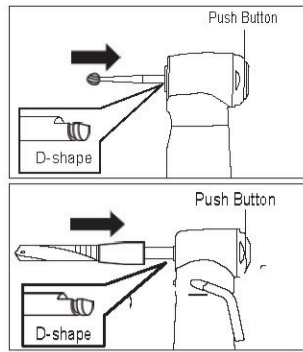

Fig. 2
- Insert the bur/ drill until it is correctly secured in place. (Fig. 2)